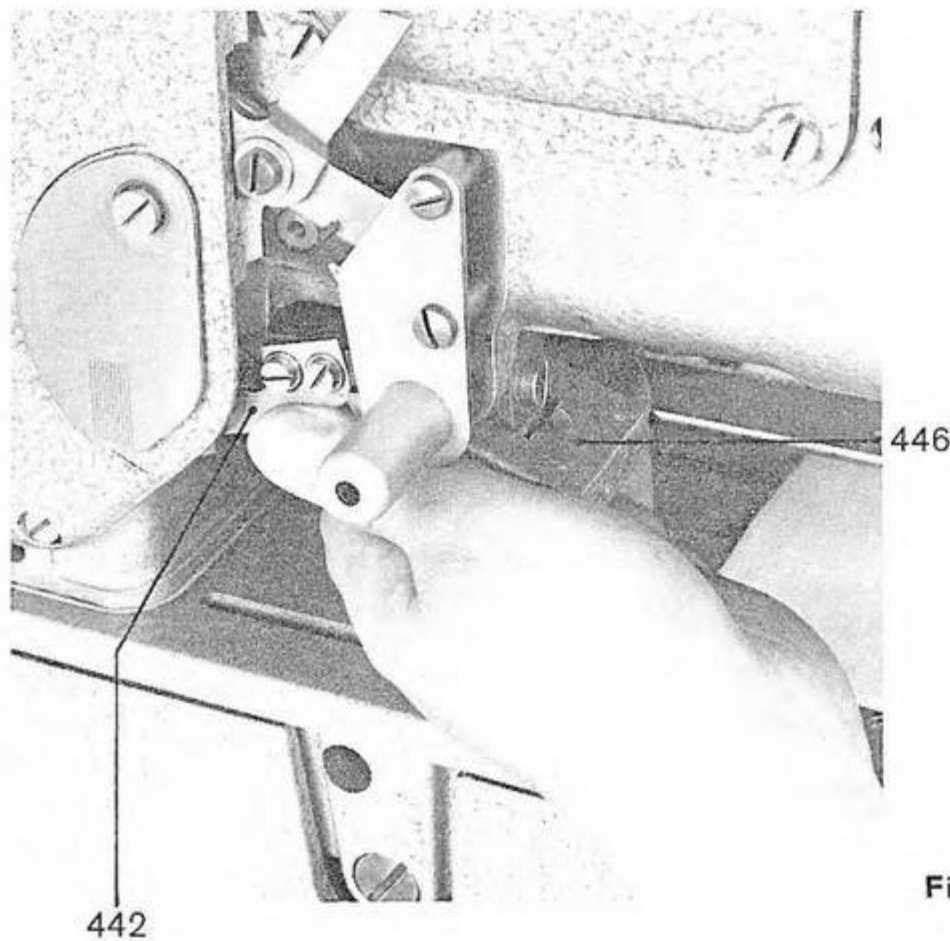

Fig. 120
11. Seize the block 446 (fig. 120) with the left hand, lift the lever 442 and displace the scissors to the right until the block 461 (fig. 112) touches the surface of the bearing point.
19. Seize the block 446 (fig. 120) with the left hand, pull it a bit to left and lift thus the lever 442.